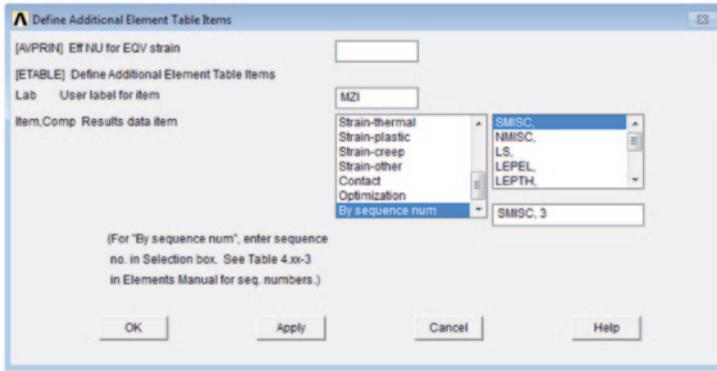

Fig. 8.6 Define Additional Element Table Items dialog box for extracting nodal moment values
- *Define Additional Element Table Items* dialog box appears. Enter a label name, say MZI, in the User label for item text field. In the left list, scroll down to select **By sequence number** and select **SMISC** in the right list. Finally, type **SMISC,3** in the last text field; click on **Apply** (Fig. 8.6).